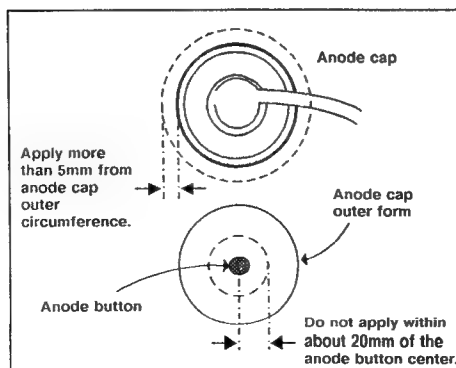

Fig. 6
- After replacing the CRT, flyback transformer or performing service with the anode cap disconnected, be sure to apply insulating silicon grease as indicated in Fig. 6.
- As shown in Fig. 6, apply silicon grease around the anode button circumference, but use care not to apply the grease to the button itself.